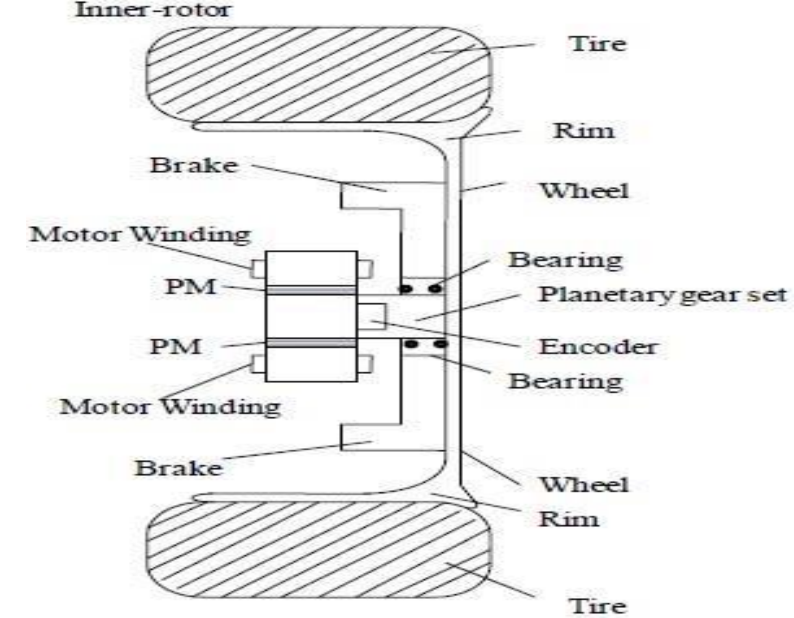

Figure 6a: Inner rotor In Wheel drive [1]
- ❖ When a high-speed inner-rotor motor is used (**Figure 6a**) then a fixed speed-reduction gear becomes necessary to attain a realistic wheel speed. Speed reduction is achieved using a planetary gear set. This motor is designed to operate up to 1000 rpm so as to give high power density.